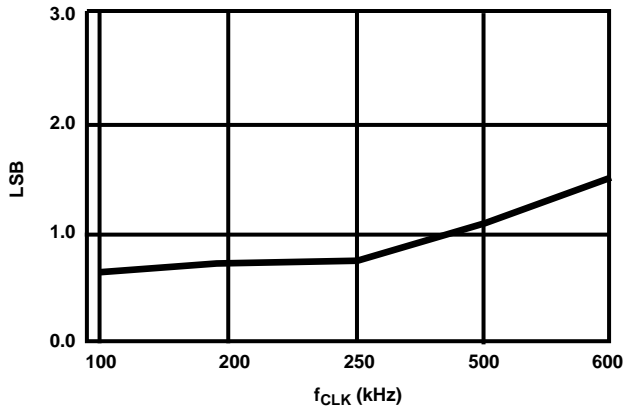

FIGURE 5. INTEGRAL INEARTIY ERROR vs CLOCK FREQUENCY
**Power supply current**, at reduced supply voltage (3.3V), is typically 500 $\mu A$  and remains relatively independent of the applied external clock frequency (Figure 1.) **Offset and Gain errors** remain below  $\pm 2LSBs$  up to  $f_{CLK} = 600kHz$  (Figure 2 and Figure 3). Both **Differential and Integral Linearity** also remain below  $\pm 2LSBs$  with  $f_{CLK}$  up to 600kHz or 25 $\mu s$  conversion time (Figure 4 and Figure 5). Typical overall 12-bit performance is achievable with  $f_{CLK}$  up to 500kHz or 30 $\mu s$  conversion time.